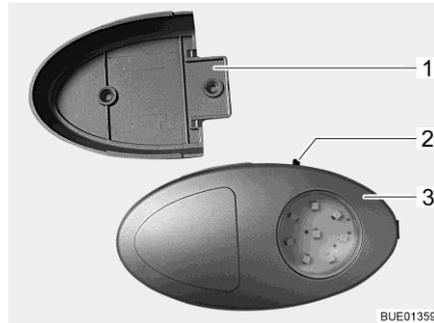

Fig. 80 Wardrobe light/torch
- ▷ The wardrobe light can be removed from its holder (Fig. 80,1) and used as a torch.
The On/Off switch (Fig. 80,2) is located directly on the wardrobe light (Fig. 80,3).